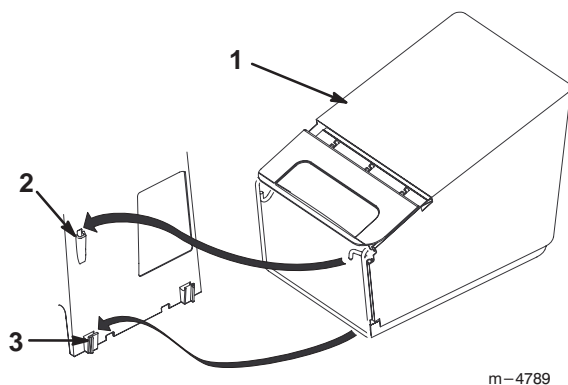

Figure 18
5. Insert the grass bag frame hook into the deck slot and onto the grass bag frame saddles as shown in Figure 18.
4. Lift the grass bag frame from the grass bag frame saddles and out of the deck slot as shown in Figure 18.